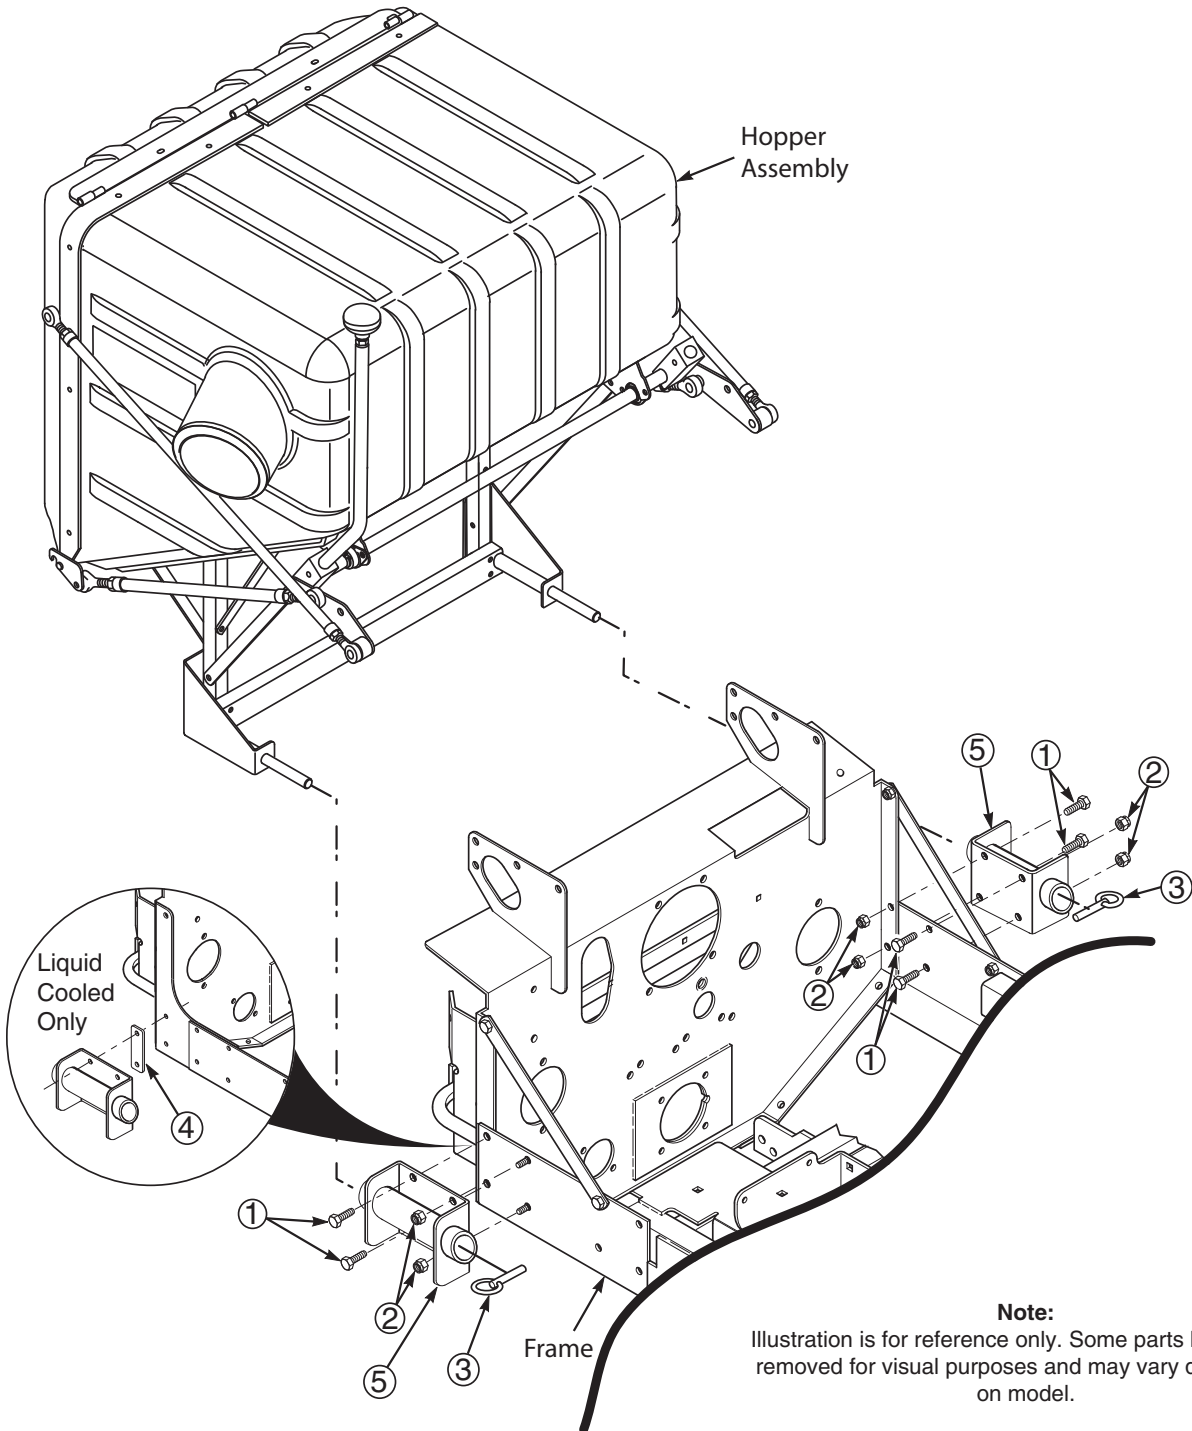
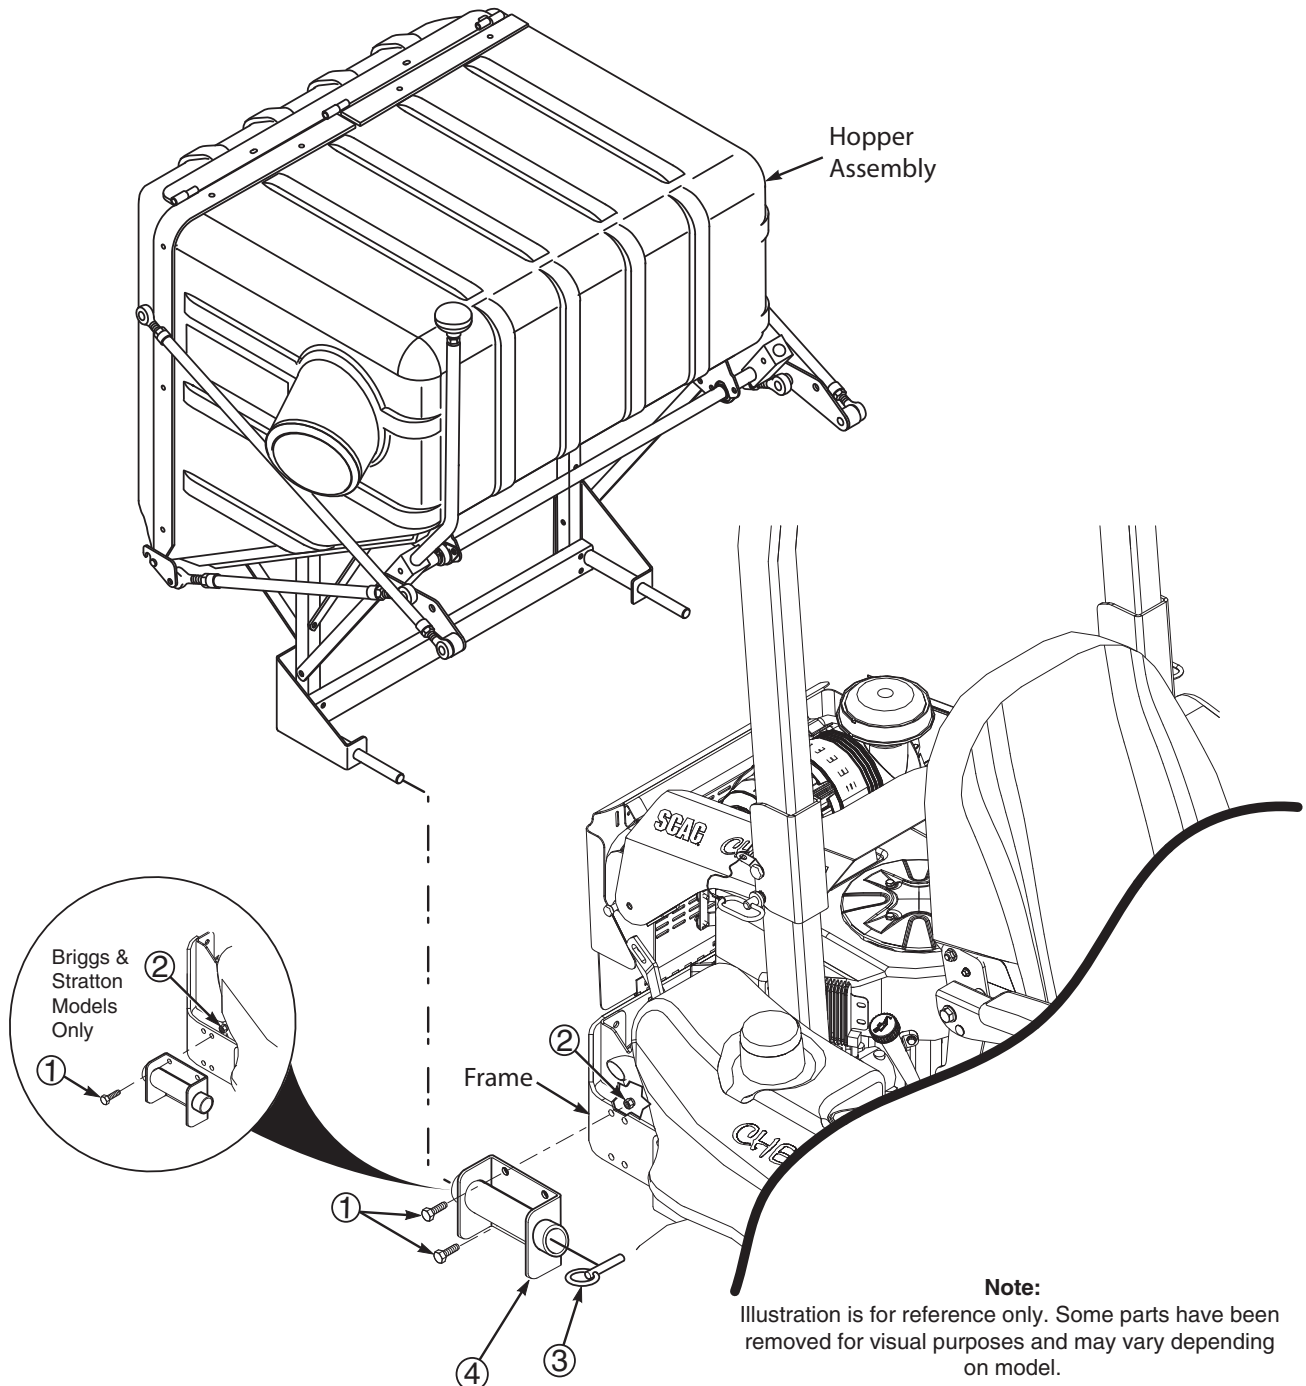

FIGURE 3-6 STT Models Only
FIGURE 3-7 SCZ Models Only
12. Install the hopper mounting brackets (p/n 451512 & p/n 451595) to the outside of the frame on the rear of the machine using 3/8-16 x 1" hex head bolts (p/n 04001-19) and 3/8-16 elastic stop nuts (p/n 04021-09). See Figure 3-6, Page 6 STT models and Figure 3-7, Page 7 for all SCZ models.
14. With the help of an assistant, install the hopper assembly into the hopper mounting brackets. See Figure 3-6, Page 6 STT models and Figure 3-7, Page 7 for all SCZ models.